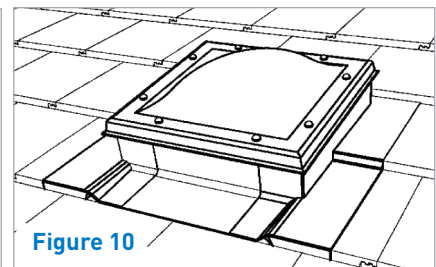

Figure 10
- **(For 350mm and 530mm systems)** Place the polycarbonate dome over the top of the starter tube interface plate. Fix to the kerb by means of security screws and cover caps supplied (Figure 10).